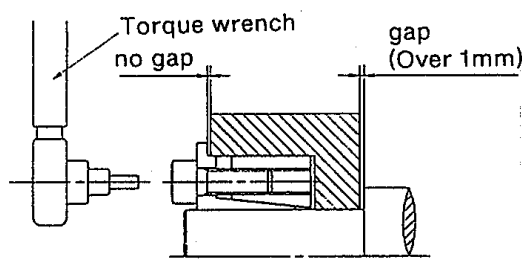

Fig. 2
- Insert the POWER-LOCK into the hub and shaft and tighten the bolts by hand until a slight positive contact is obtained and bring them to desired position. (Never strike the POWER-LOCK with a hammer or other such tool during the mounting.) (Never tighten the tightening bolts unless the hub and shaft are fully inserted into the POWER-LOCK. If the tightening bolts are tightened with the POWER-LOCK alone, the POWER-LOCK may deform and become unusable.) (See Fig.2)